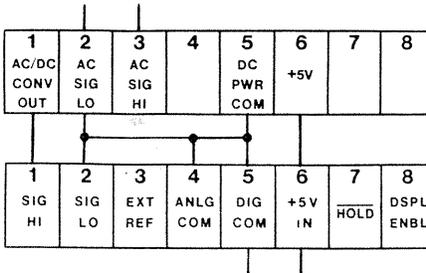

Figure 3. Connection Information
1. Make connections between upper and lower terminal blocks as shown in figure 3.